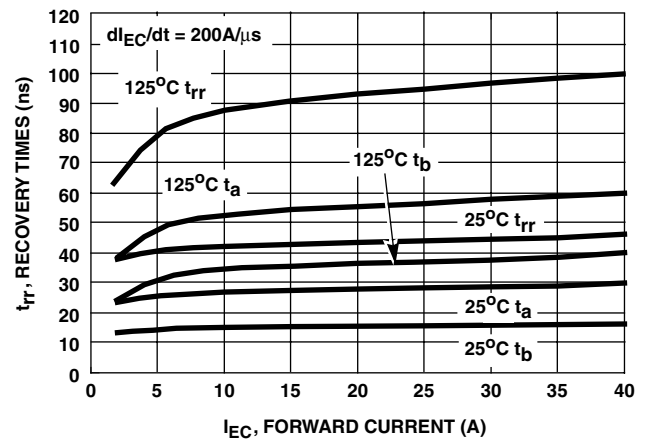

FIGURE 20. RECOVERY TIMES vs FORWARD CURRENT
- Values for two Turn-On loss conditions are shown for the convenience of the circuit designer.  $E_{ON1}$  is the turn-on loss of the IGBT only.  $E_{ON2}$  is the turn-on loss when a typical diode is used in the test circuit and the diode is at the same  $T_J$  as the IGBT. The diode type is specified in Figure 20.